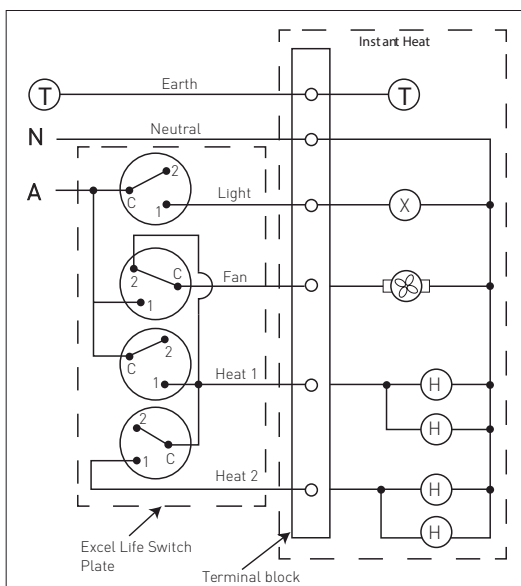

Fig.8 Wiring diagram
Do not use with any solid state speed control. The wall plate should be located so that the switches are not within reach of a person in a bath or shower. Wiring connection is as per Fig.8.
**CAUTION:** Warranty will be void if the instant heat unit is not wired as per wiring diagram (Fig. 8)